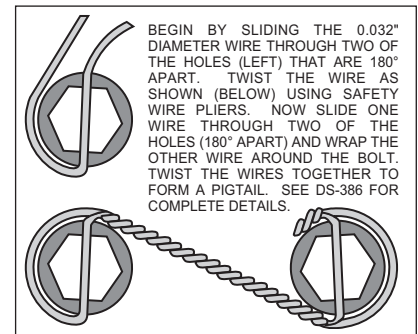

Figure 3. Safety Wire Diagram
- With the larger I.D. side of the rotor (5) facing away from the hat (6), bolt rotor (5) to hat (6) through the backside of the rotor using washers (7) and bolts (8). Torque bolts (8) to 85 **in-lb**. Safety wire bolts (8) using standard 0.032 inch diameter stainless steel safety wire as shown in Figure 3. Please refer to Wilwood’s data sheet DS-386 (available at [www.wilwood.com/pdf/ds386.pdf](http://www.wilwood.com/pdf/ds386.pdf)) for complete safety wire installation instructions. Slide the rotor/hat assembly onto the hub. Install a couple of lug nuts (finger tighten) to keep the rotor/hat assembly in place while continuing with the installation.